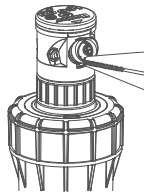
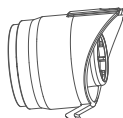

Figure 2
Figure 3
- 3 Using small needle-nose pliers, firmly insert tip of pliers into the opening below the nozzle (Figure 2). This action will collapse the nozzle's retaining hook (Figure 3). While gripping the nozzle, pull outward to remove.